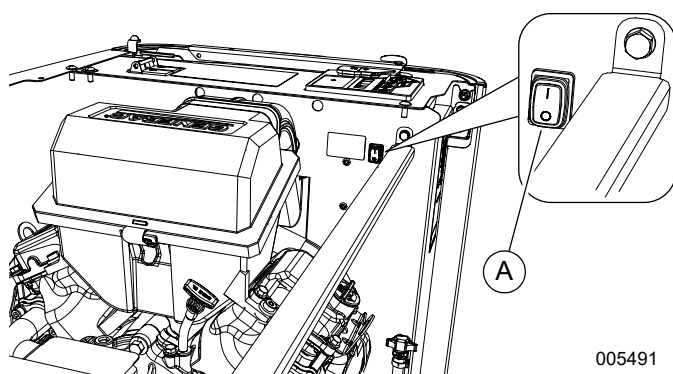

Figure 3-7. Internal Auxiliary Shutdown Switch (13–24kW)
See Figure 3-7. 13–24 kW generators also have an auxiliary shutdown switch (A) located inside generator.